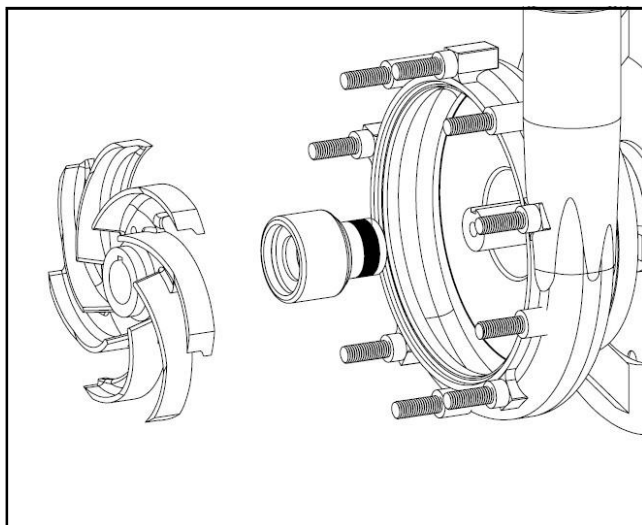

Figure 5
7. Pull the seal driver off of the back of the impeller, Figure 5.